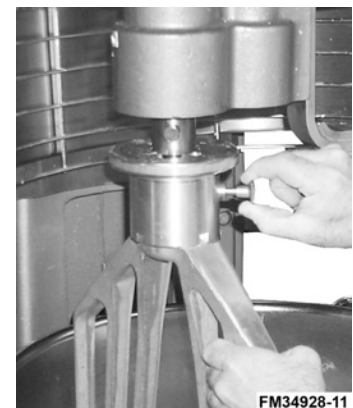

Fig. 6
3. Hold the agitator and pull the plunger of the agitator out (Fig. 6). Slide agitator down off the agitator shaft.